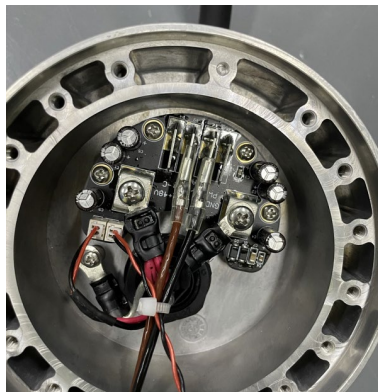

Figure 3-9 Connect the base joint line
- As shown in Figure 3-9, place the base joint back into the base mounting bracket and reconnect the wires;